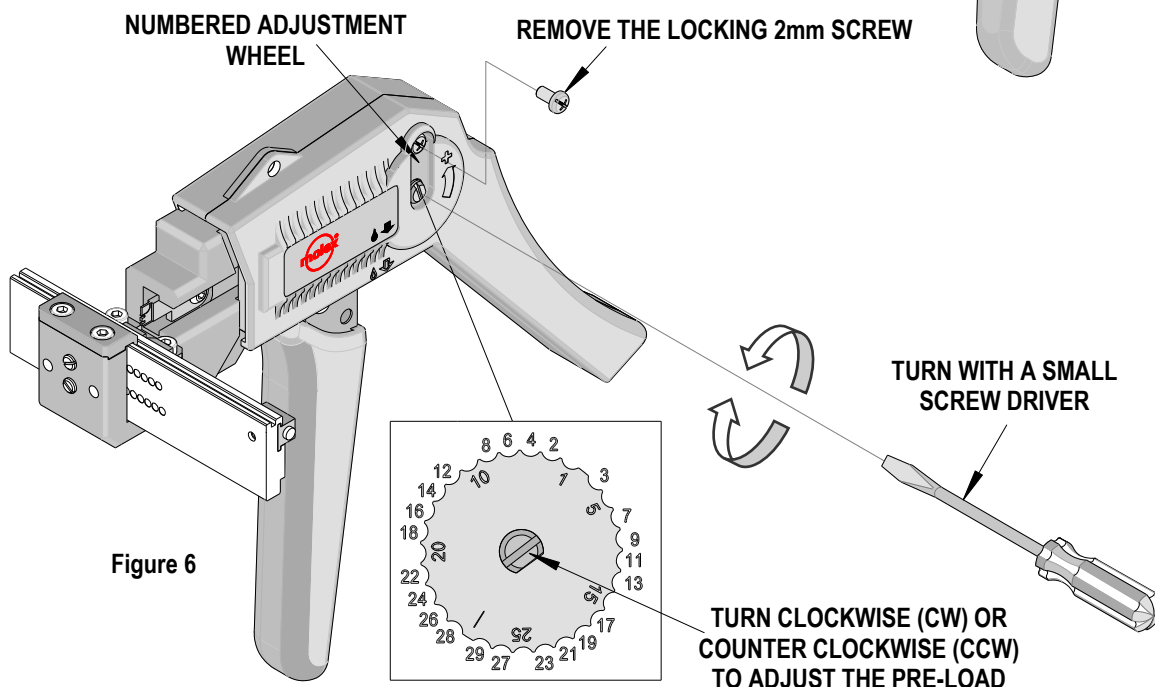

Figure 6
1. Remove the 2mm locking screw from the numbered adjusting wheel using a screw driver. See Figure 6.